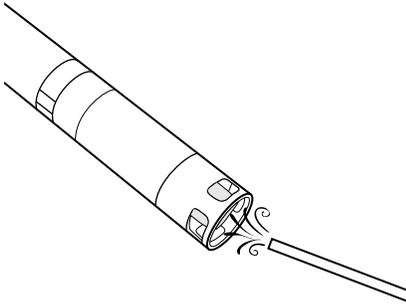

Figure 77 Ammonium and nitrate maintenance
1. Carefully clean the ammonium or nitrate sensor by rinsing with DI water followed by soaking in the high standard calibration solution (Figure 77).